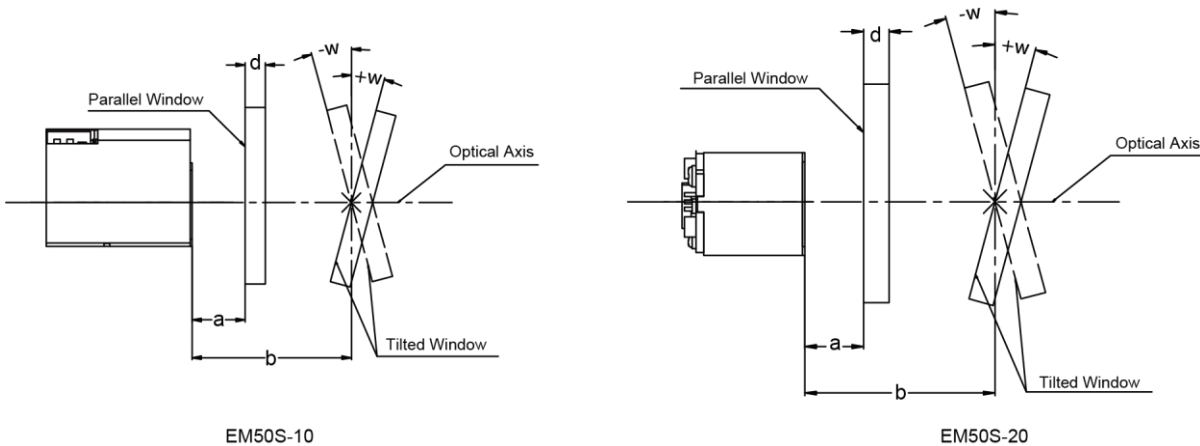

Figure 2-8
- **Parallel window** – Primary option for imager engines. The following window distance requirements should be satisfied: The maximum distance is measured from the front of the engine housing to the furthest surface of the window. In order to reach better reading performance, the distance from the front of the engine housing to the nearest surface of the window should not exceed **a** ($a=1\text{mm}$) and the distance from the front of the engine housing to the furthest surface of the window should not exceed **a+d** ($a=1\text{mm}$, $d=2\text{mm}$), as shown in **Figure 2-8**.